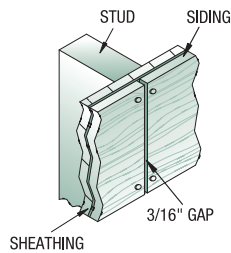

FIG. 2
- All lap products require that the butt joints be located on the studs and nailed at the joints. See Fig 2.
- Leave 3/16" gap at all butt joints, around all doors and window frames, and at joints in the soffits for all lap and square edge siding products. Caulk all gaps. See Fig 2.
- Vertical butt joints must be located only on studs. Each piece of siding must be nailed top and bottom to studs. See Fig. 2.